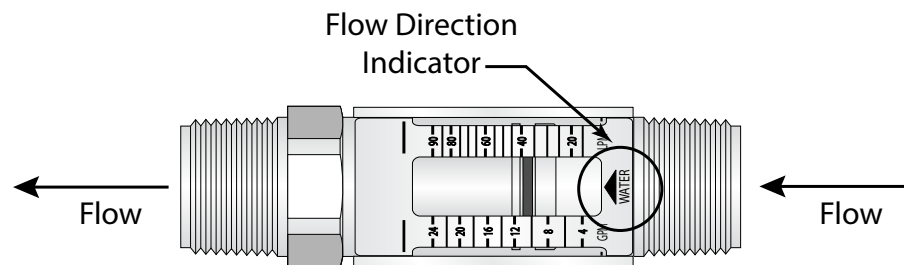

Figure 4: Flow direction indicator
These meters accept flow in one direction. Align the *Flow Arrow*, located on the bottom of the meter's flow scale, in the same direction as the anticipated line flow. See *Figure 4*.
3. Thread the flow meter and coupling onto the inlet pipe and hand tighten. Make sure the flow direction arrow on the flow meter corresponds with the system flow direction. See *Figure 4*.
6. Make sure the flow direction arrow on the flow meter corresponds with the system flow direction. See *Figure 4 on page 9*. Lubricate the union O-ring and connect the union together.
7. Place the flow meter in between the two installed brass fittings. Make sure the flow direction arrow on the flow meter corresponds with the system flow direction. See *Figure 4 on page 9*. Thread the two brass hex couplers into the flow meter body.
8. Place flow meter between the two installed fittings. Make sure the flow direction arrow on the flow meter corresponds with the system flow direction. See *Figure 4 on page 9*. Thread the two hex couplers onto the flow meter body.
2. Thread the inlet of the flow meter onto the appropriate pipe connection. Make sure the flow direction arrow on the flow meter corresponds with the system flow direction. See *Figure 4 on page 9*.